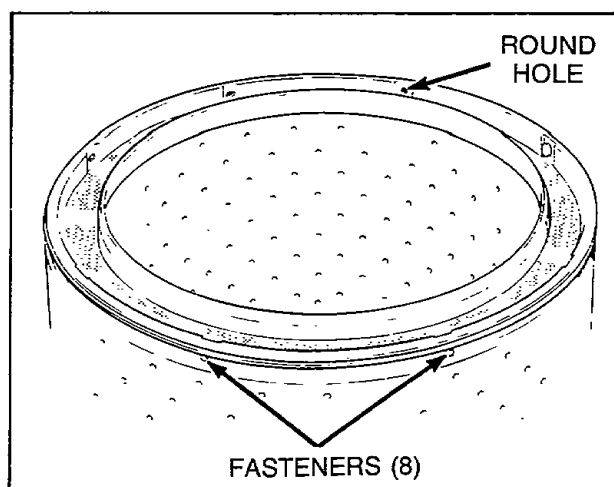

Figure 23
- Remove the eight fasteners holding lint filter to washtub, *Figure 23*.
NOTE: When installing lint filter, it is necessary to start the first fastener in the round hole, *Figure 23*. Place the remaining fasteners in their respective holes.